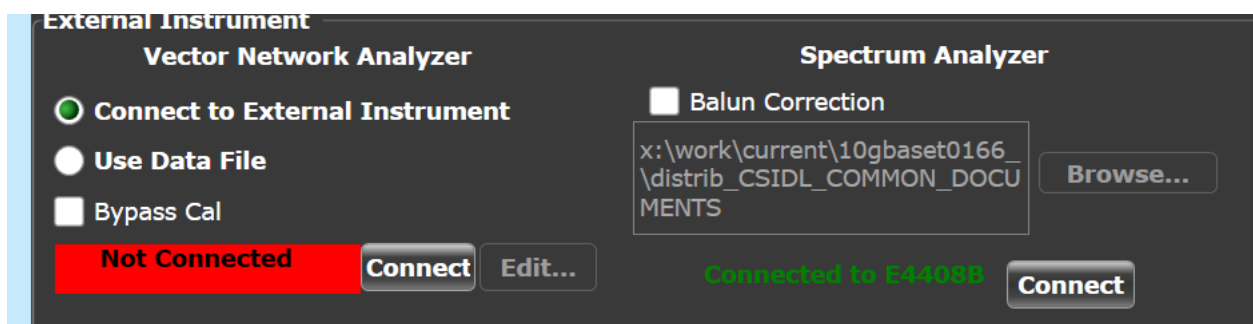

Figure 25 Connection status after the Test App detects the Spectrum Analyzer
- 12 Once the 10GBASE-T Ethernet Test Application detects the Spectrum Analyzer, it is indicated on the **Set Up** tab as shown in Figure 25.